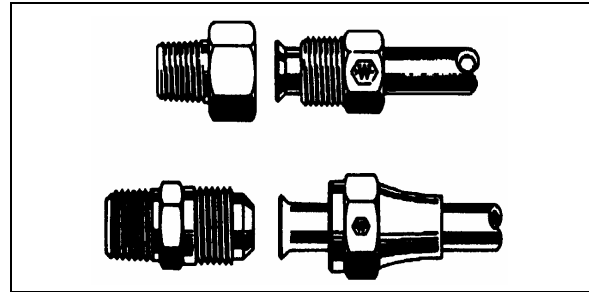

FIGURE 48: HOSE FITTINGS12053
**45° Flare and Inverted Flare:** Tighten assembly with a wrench until a solid feeling is encountered. From that point, tighten 1/6 turn (Fig. 48).